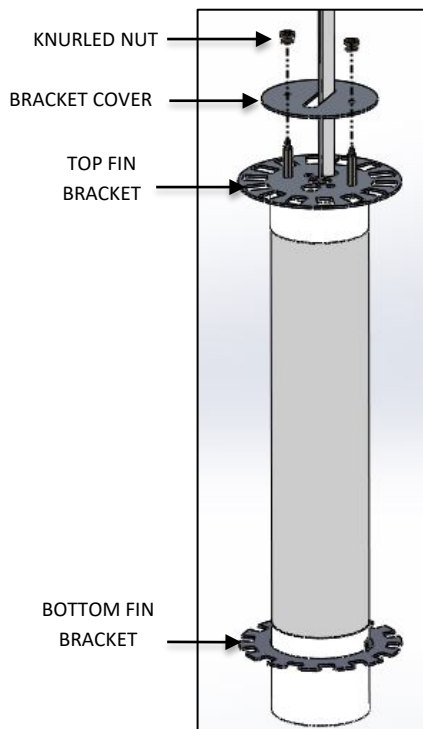

FIG. 28 – BRACKET COVER
11. Remove 2 KNURLED NUTS and raise the BRACKET COVER as shown below in FIG. 28.